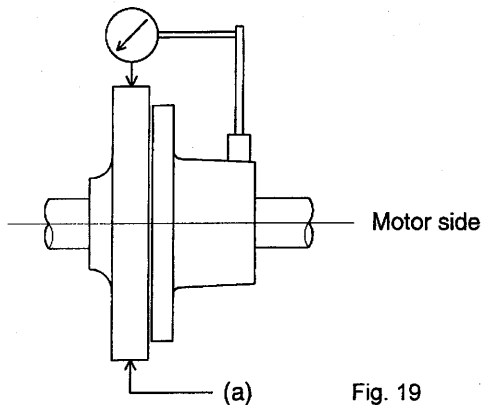

Fig. 19
- (1) As shown in Fig. 19, mount a stand to the coupling on the motor side, apply the dial gauge to flywheel (a) and rotate the flywheel to read the deflection of gauge pointer.
- (2) Measure at four points at 90° interval.
- (3) Adjust by shifting the vertical and horizontal positions of the compressor or motor so that the deflection of dial gauge pointer should not exceed 0.08mm.